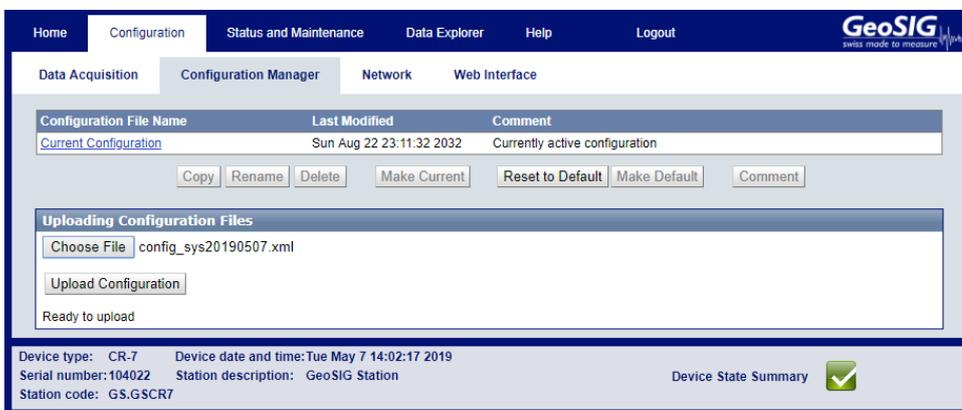

Figure 39: Choose new file to upload
3. **The Upload Panel:** While the *Configuration List* allows downloading configurations from the device by clicking on the name, this part of the screen provides the possibility to upload a configuration to the web interface by selecting a configuration file and using the **Upload Configuration** Button. As can be seen in Figure 39, after a successful upload a new file is shown in the Configuration List and the name of the newly available configuration is written at the top of the list. (The name of new configuration will be created from a random string followed by "\_config.xml"). The configuration can then be changed by clicking on **Rename**. Note that the upload panel might look different depending on the browser in use.